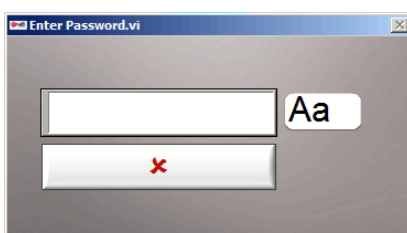
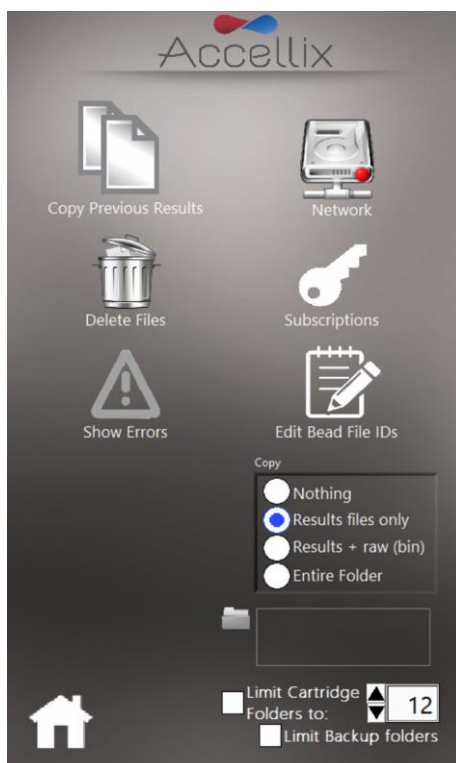

Figure 18: Admin User Password Window
Figure 19: General Administrator Settings screen
2. Enter the password in the **Admin User Password Window** (Figure 18) to access the **General Administrator Settings** screen (Figure 19).